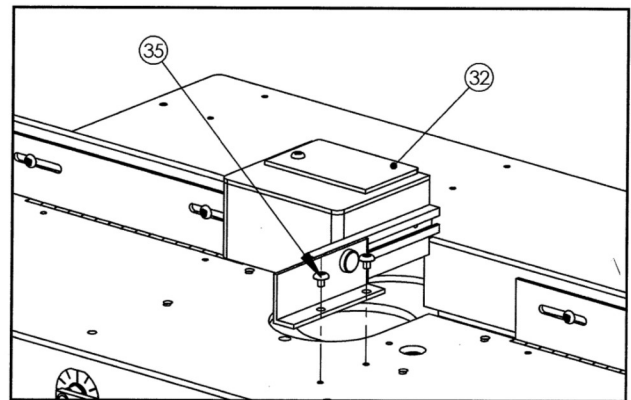

Figure 15. Chip collector
- Locate the chip collector and hardware (shipped separately). From the back of the RouterShop, install the chip collector bracket to the table top using (2) #10-32 x 1/4" screws (Figure 15).